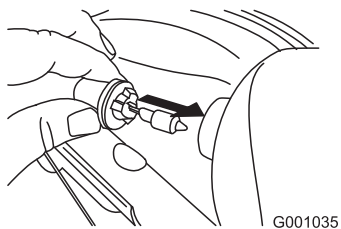

Figure 54
4. Insert a new bulb into the back of the headlight (Figure 54).